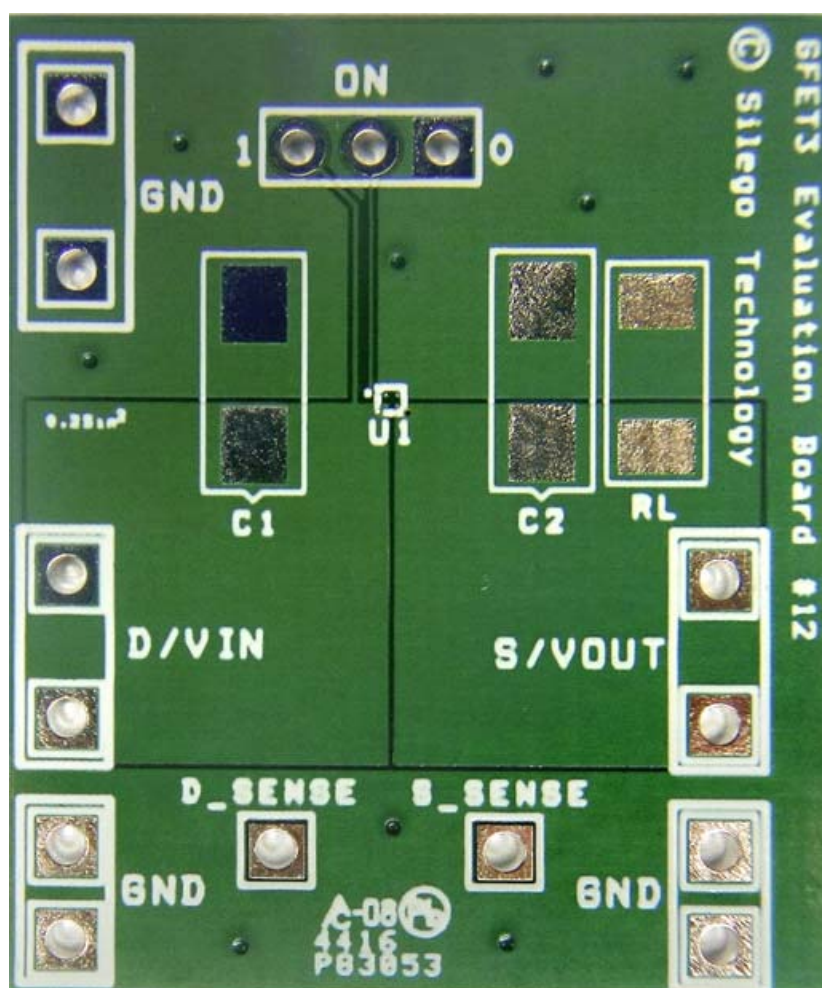

Figure 14. SLG59M1693C Evaluation Board
1. Since the VIN and VOUT pins dissipate most of the heat generated during high-load current operation, it is highly recommended to make power traces as short, direct, and wide as possible. A good practice is to make power traces with absolute minimum widths of 15 mils (0.381 mm) per Ampere. A representative layout, shown in Figure 14, illustrates proper techniques for heat to transfer as efficiently as possible out of the device;
A GFET3 Evaluation Board for SLG59M1693C is designed according to the statements above and is illustrated on Figure 14. Please note that evaluation board has D\_Sense and S\_Sense pads. They cannot carry high currents and dedicated only for RDSON evaluation.